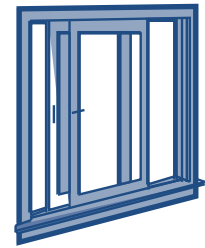

Figure 25: Horizontal sliding window.
- A **sliding window** is like a double-hung window laid on its side and is equally susceptible to air infiltration, (Figure 25). It can also be weatherstripped in the manner described above. Properly installed thin metal strips in the channels shouldn't interfere with the movement of the sashes. Countersinking the nails will ensure they won't catch on the lower sash rail.